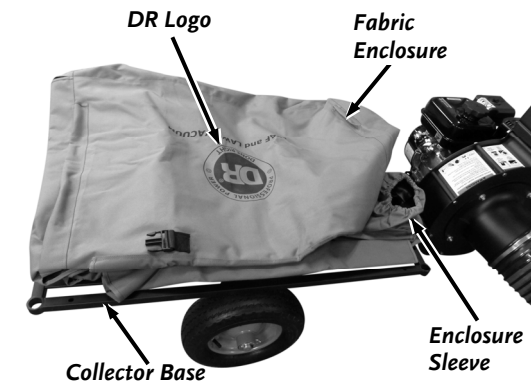

Figure 19
1. Unfold the fabric Enclosure and place it onto the Collector base (**Figure 19**). Position the Enclosure with the DR logo facing up and the Enclosure Sleeve positioned at the front right hand corner.